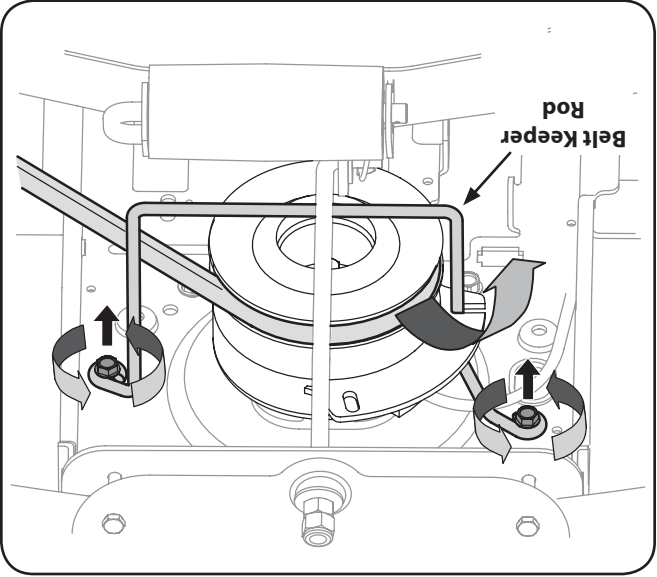

Figure 7-1
- 3. Locate the PTO clutch under the front of your tractor. See Fig. 7-1.
- 4. Remove the belt guard and belt as follows Refer to Fig. 7-1: